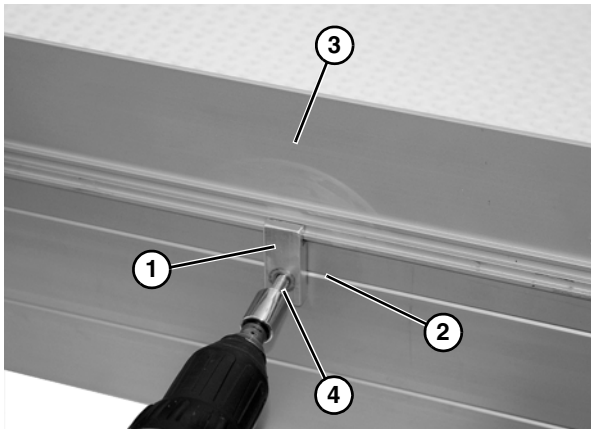

Figure 23
1. Lay out retaining clip (**Figure 23, item 1**) locations. The end clips should be no greater than 12" from end of the conveyor. Hole should line up with notch (**Figure 23, item 2**) in side rail.
2. Hold guide (**Figure 23, item 3**) and retaining clip (**Figure 23, item 1**) to conveyor side rail. Install self-drilling screws (**Figure 23, item 4**) following the "Proper Methods of Attachment to Side Rails" on page 10 procedure.